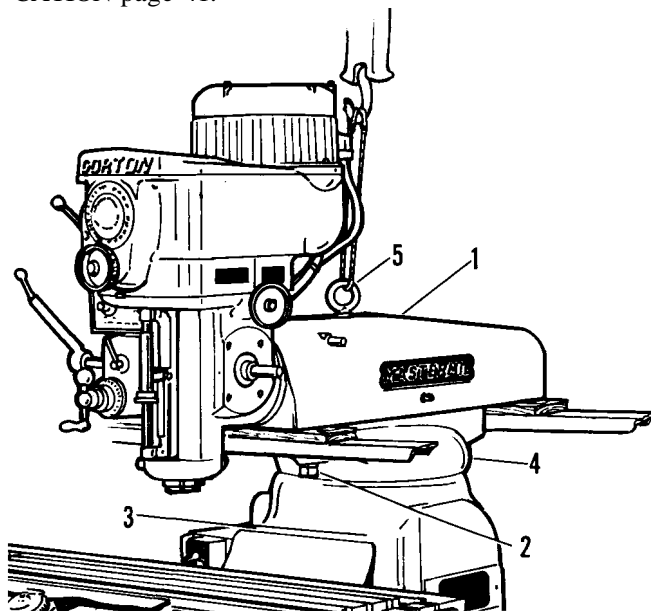

Figure 1. Moving The Machine
3. MOVING THE MACHINE (See figure 1)
The machine can also be moved by using a lift truck as shown in figure 1. Use wood spacers between the forks and bearing surfaces to prevent damage.
Make sure that ram is securely clamped to turret with front and rear ram clamping bolts (figure 1). Place lifting hook in eye bolt on top of ram and move machine to its permanent location.
15. SERIAL NUMBER LOCATION (figure 1)